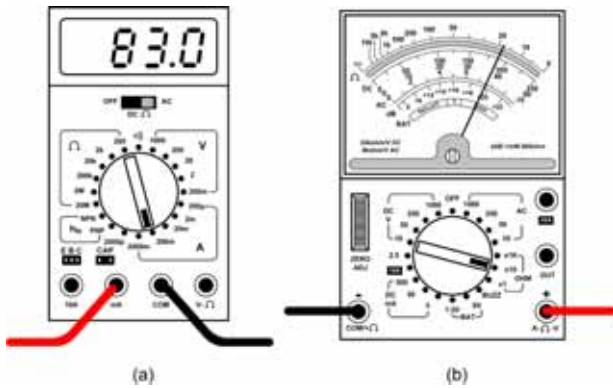

Fig.10.8. See Question 10.2
10.2. What indications are displayed on the analogue and digital multimeters shown in Fig.10.8?